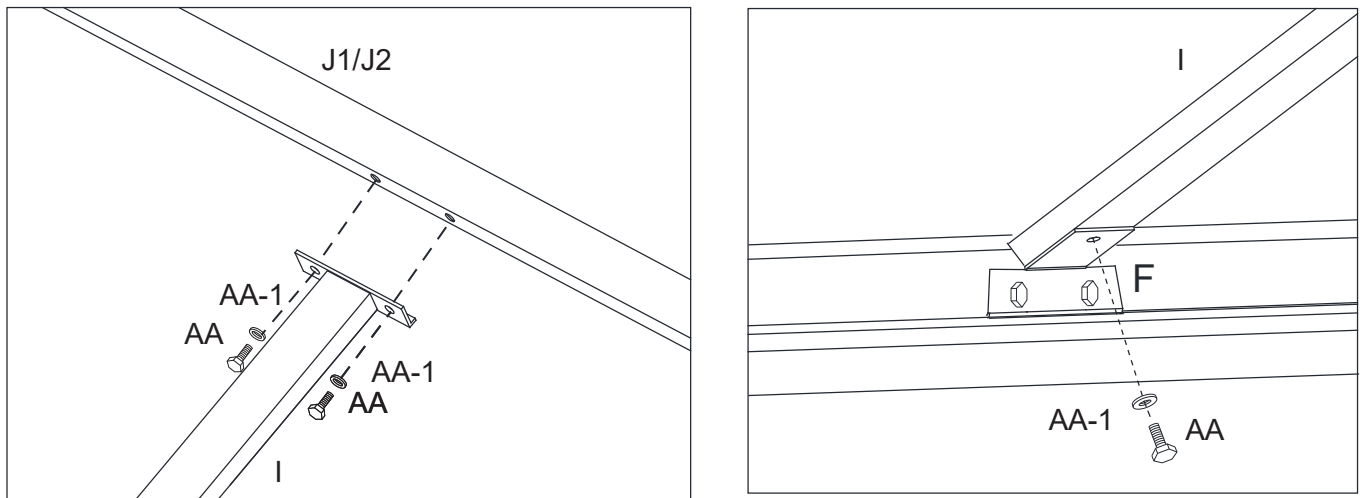

Figure 8-1
- 8.1 Attach the Main Roof Vertical Center Supports (I) to the Main Roof Center Frame (J1/J2) and the Lintel Brackets (F) using Bolts (AA) and Steel washer (AA-1). Hand Tighten Only. See Figure 8-1.